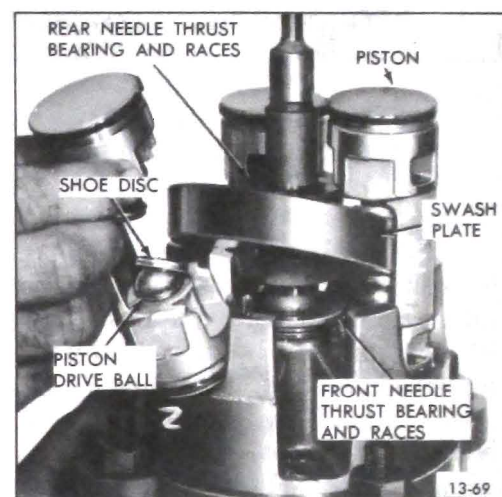

Figure 13-93 Disassembly of Cylinder Assembly
4. Carefully disassemble from cylinder assembly (see Figure 13-93) and lay in respective place on parts tray (J-9402) the following: number "1, 2 and 3" pistons, piston drive balls, and piston rings. To disassemble, rotate swash plate until piston is at highest point, raise swash plate approximately 1/2 inch and lift out piston and related parts one at a time. Discard shoe discs and rear needle thrust bearing and races.